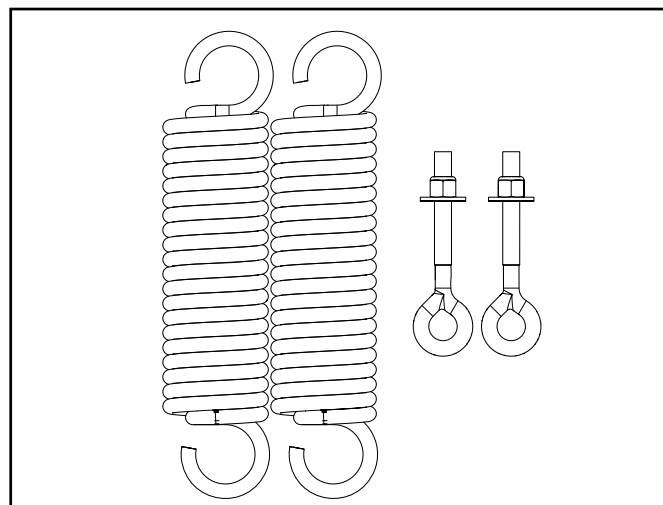

Fig 2.1 (Trip Springs and Hardware)
2.1 Locate the (2) trip springs, (2) eye bolts, (2) 3/8-16 Nylock hex nuts, and (2) 3/8" washers. See Figure 2.1.